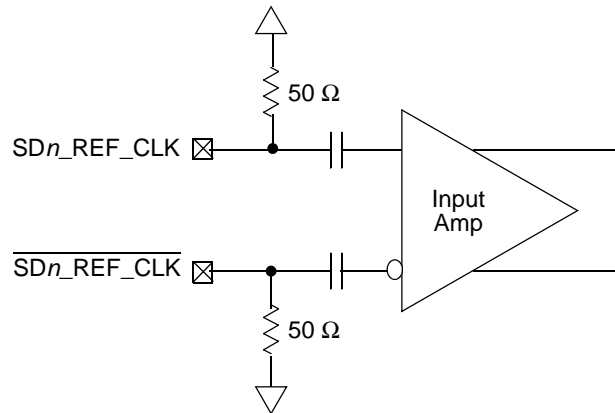

Figure 44. Receiver of SerDes Reference Clocks
Figure 44 shows a receiver reference diagram of the SerDes reference clocks. Characteristics are as follows:
- The  $SDn\_REF\_CLK$  and  $\overline{SDn\_REF\_CLK}$  are internally AC-coupled differential inputs as shown in Figure 44. Each differential clock input ( $SDn\_REF\_CLK$  or  $\overline{SDn\_REF\_CLK}$ ) has on-chip 50- $\Omega$  termination to  $SGND\_SRDSn$  ( $xcorevss$ ) followed by on-chip AC-coupling.